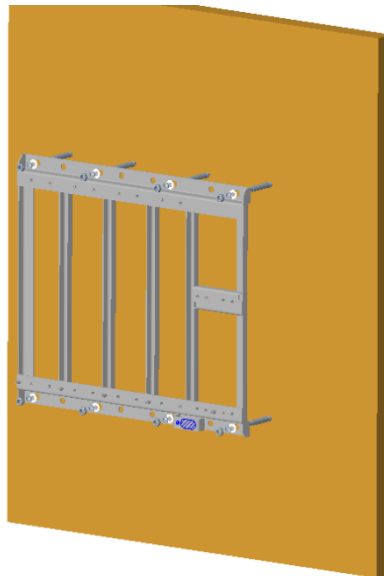

Figure 77. Wall mounted installation
Step 2: Fix the mounting rack on the wall with 8 M10*110 expansion bolts, as shown in Figure 77.